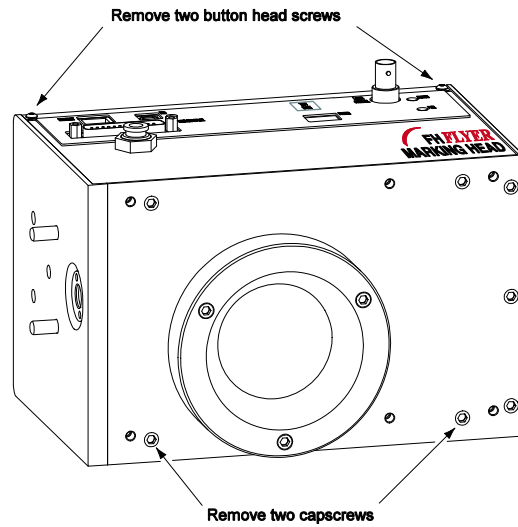

Figure 2 Opening Flyer to enable FASI
- 2 Refer to Figure 2 and withdraw two button head Allen screws and two Allen head capscrews at the locations shown to remove Flyer’s upper cover.